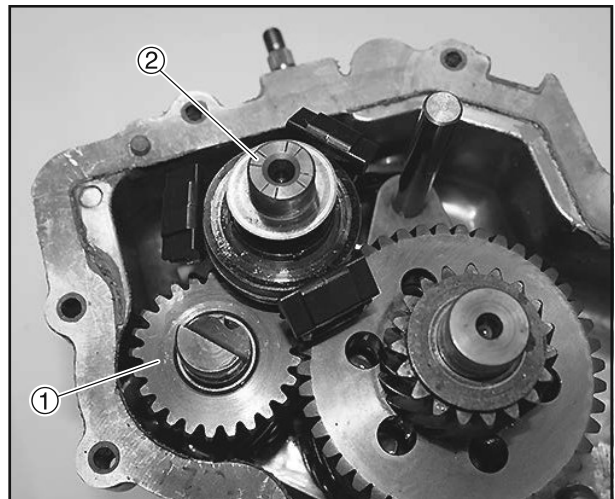

Figure 6-90
6. Install the input shaft and rotate the governor shaft (Figure 6-90, (2)) and idler gear (Figure 6-90, (1)).